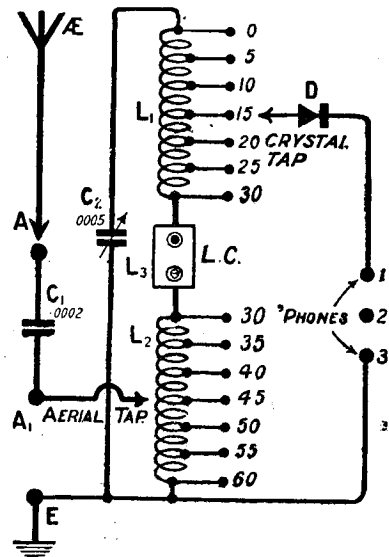

Fig. 1.—Complete details of the circuit employed are given in this theoretical diagram.
perform the same functions as in the "Single Open Circuit" jack of Fig. 1. Two additional blades (5) and (6) are added above blade (1), these two being normally separated by a small gap. P is a pin of insulating material attached to blade (5) and resting on blade (1). Insulation is necessary here, since blade (1) is in the anode circuit and (5) in the filament circuit. The insertion of the plug pushes (5) into contact with (6), thereby completing the filament circuit.